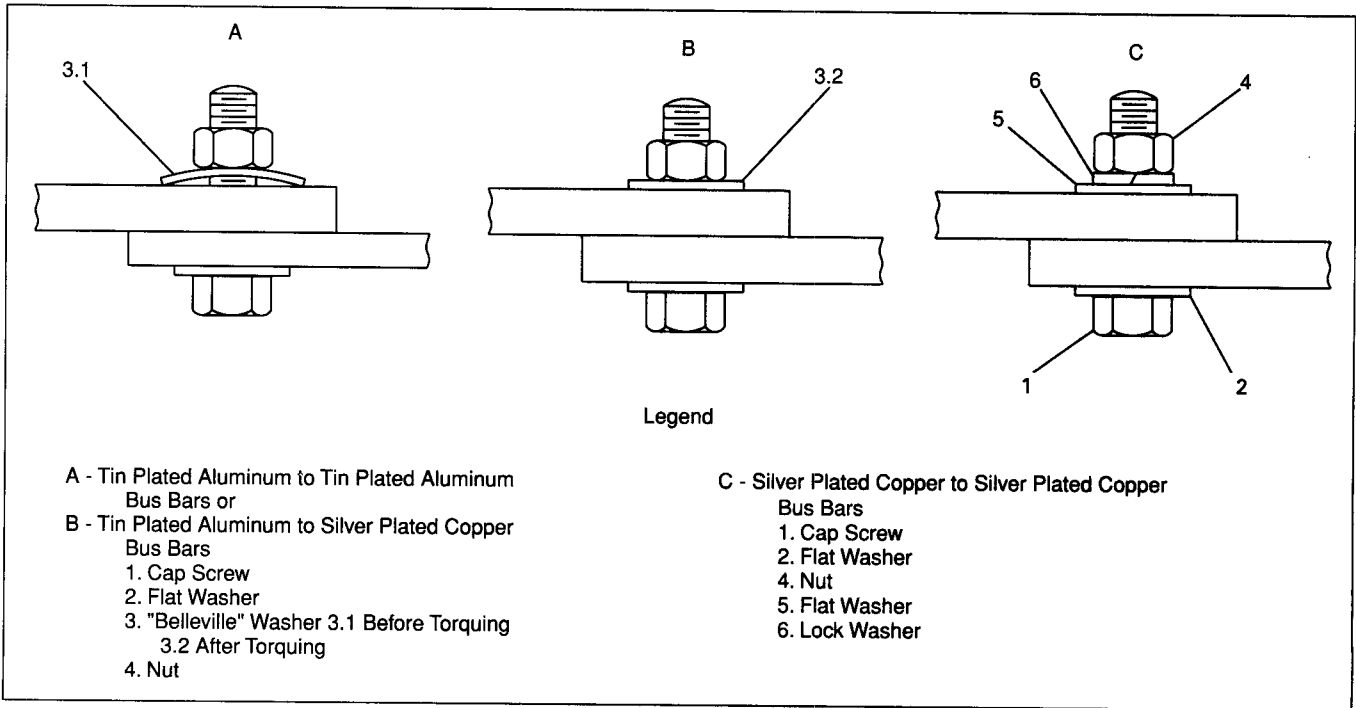

Figure 19. Bus Bar Joint Assembly
6. Use proper hardware. For joints involving only copper bus, heavy flat washers are used on both sides of the bus bar joint—under the cap screw head as well as under the nut and lockwasher. These washers insure an evenly distributed force around each bolt, producing a low resistance joint. Proper torque value produces a joint of adequate pressure without cold flow. Refer to **Figure 19**.